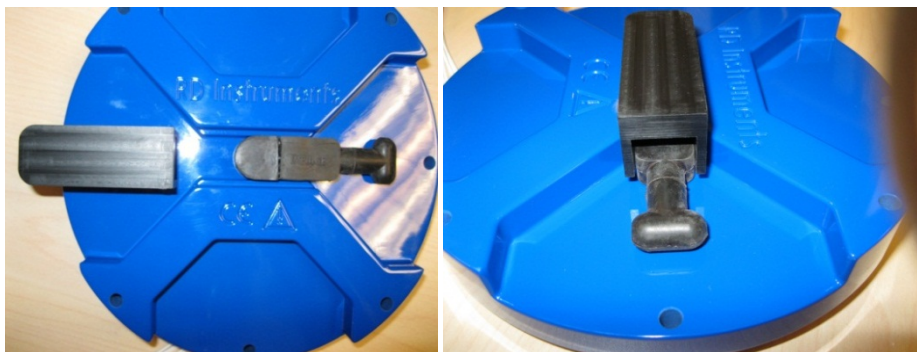

Figure 65. Extracting Wrench
10. Place the Extracting Wrench over the connector and dummy plug. The wrench will fit into the End Cap slot between the 2 rails (see Figure 65. Extracting Wrench).